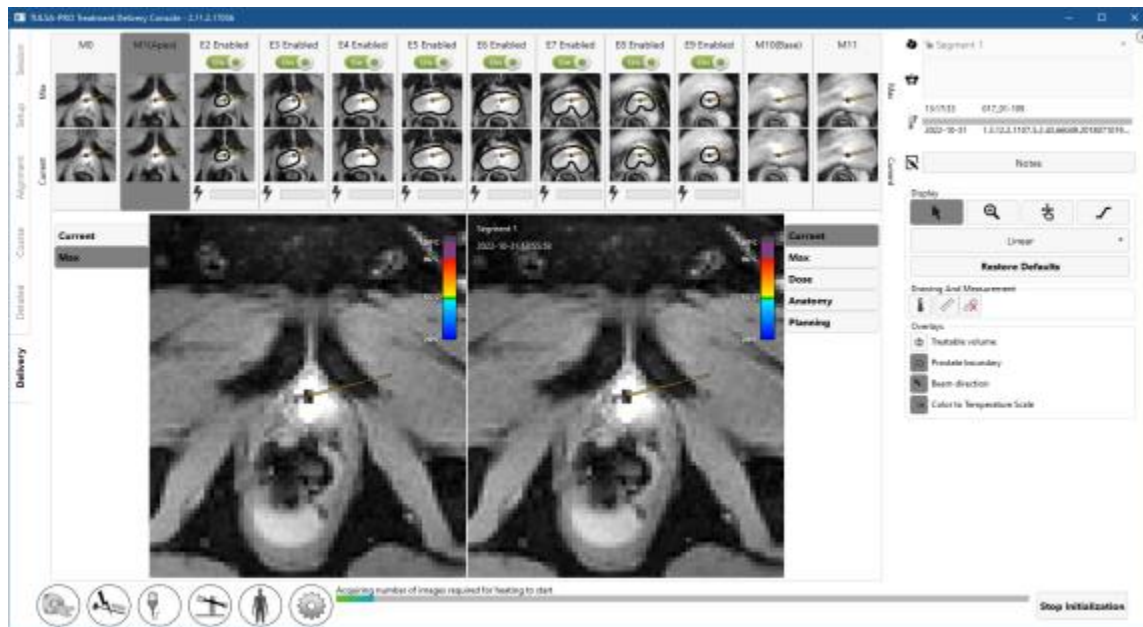

Figure 43: Treatment Initialization state
2. Radiologist: Click **Start treatment** on TDC. It will prompt you to verify the core body temperature using an external temperature measurement device before proceeding (10). Enter the temperature in degrees Celsius and click **Confirm**. The TDC will go into **Treatment Initialization** state and is now ready to receive thermometry images (Figure 43).